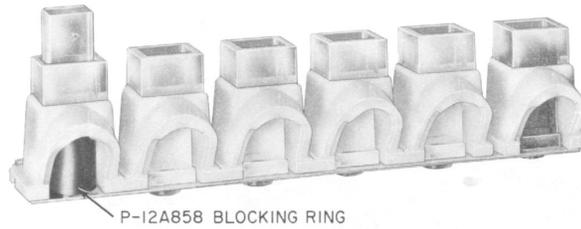

Fig. 9—P-12A858 Blocking Ring, Installed
3.04 Unused buttons, may be blocked with a P-12A858 blocking ring. Insert as shown in Fig. 9.